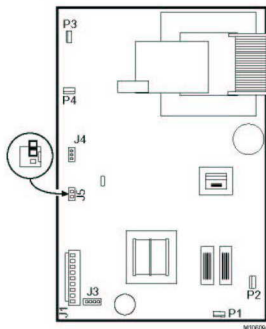

Fig. 10. Moving J5 shorting bar to reduce ozone production about 20 to 25 percent.
- e. Locate the J5 shorting bar on the power supply. See Fig. 10. Remove the shorting bar and reinstall on only one pin. Ozone will be reduced and the shorting bar will be available for reinstallation, if needed.